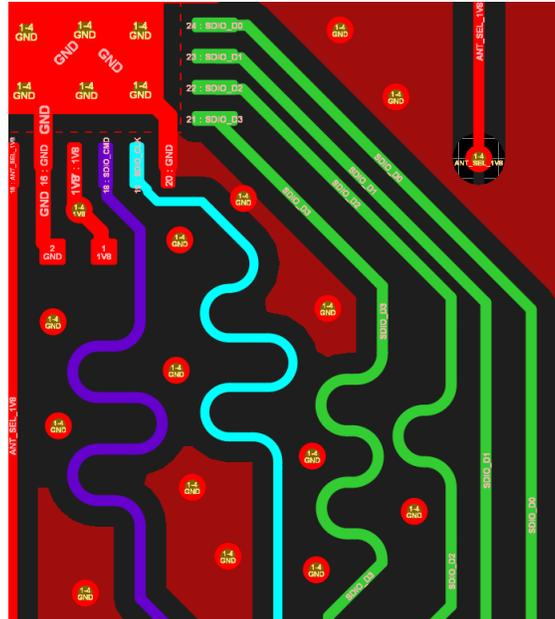

Figure 3-15. Reference Layout for SDIO Signals
- The lengths of the SDIO traces must be length matched within 20 mil tolerance to provide the sampled data at the same time on all of the traces. For a visual example of length tuning, see Figure 3-15.
Figure 3-15 is sampled from the BP-CC3301 design files.